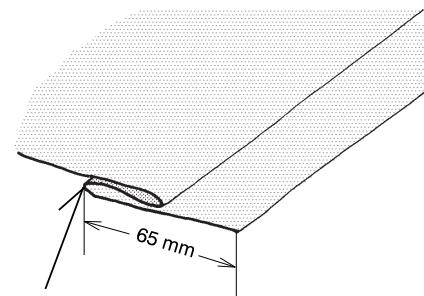

Fig. 1
1. Turn up the hem to the required depth and press. Fold the hem back against the \$right\$ side of the garment, creating a \$soft\$ fold on the \$wrong\$ side of the fabric – See Fig. 1.